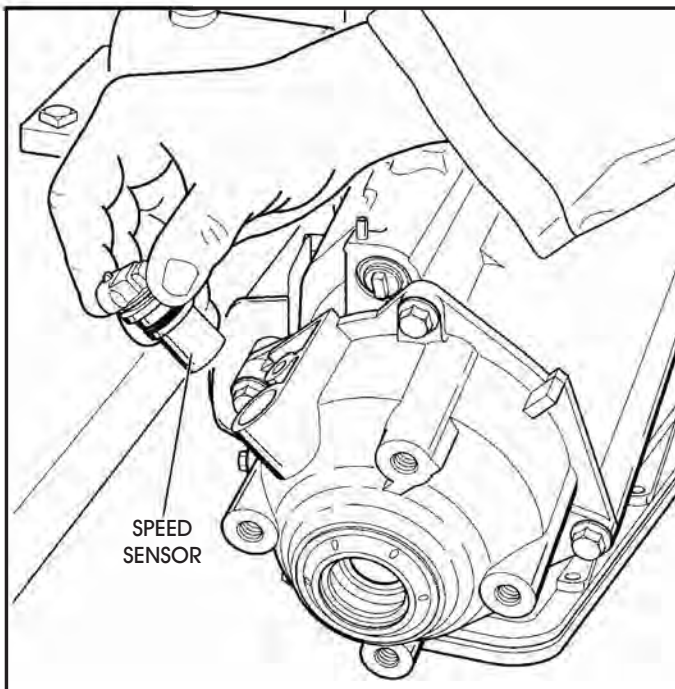

Figure 224
14. Install new "O" ring on the speed sensor and install speed sensor into extension housing, as shown in Figure 224.